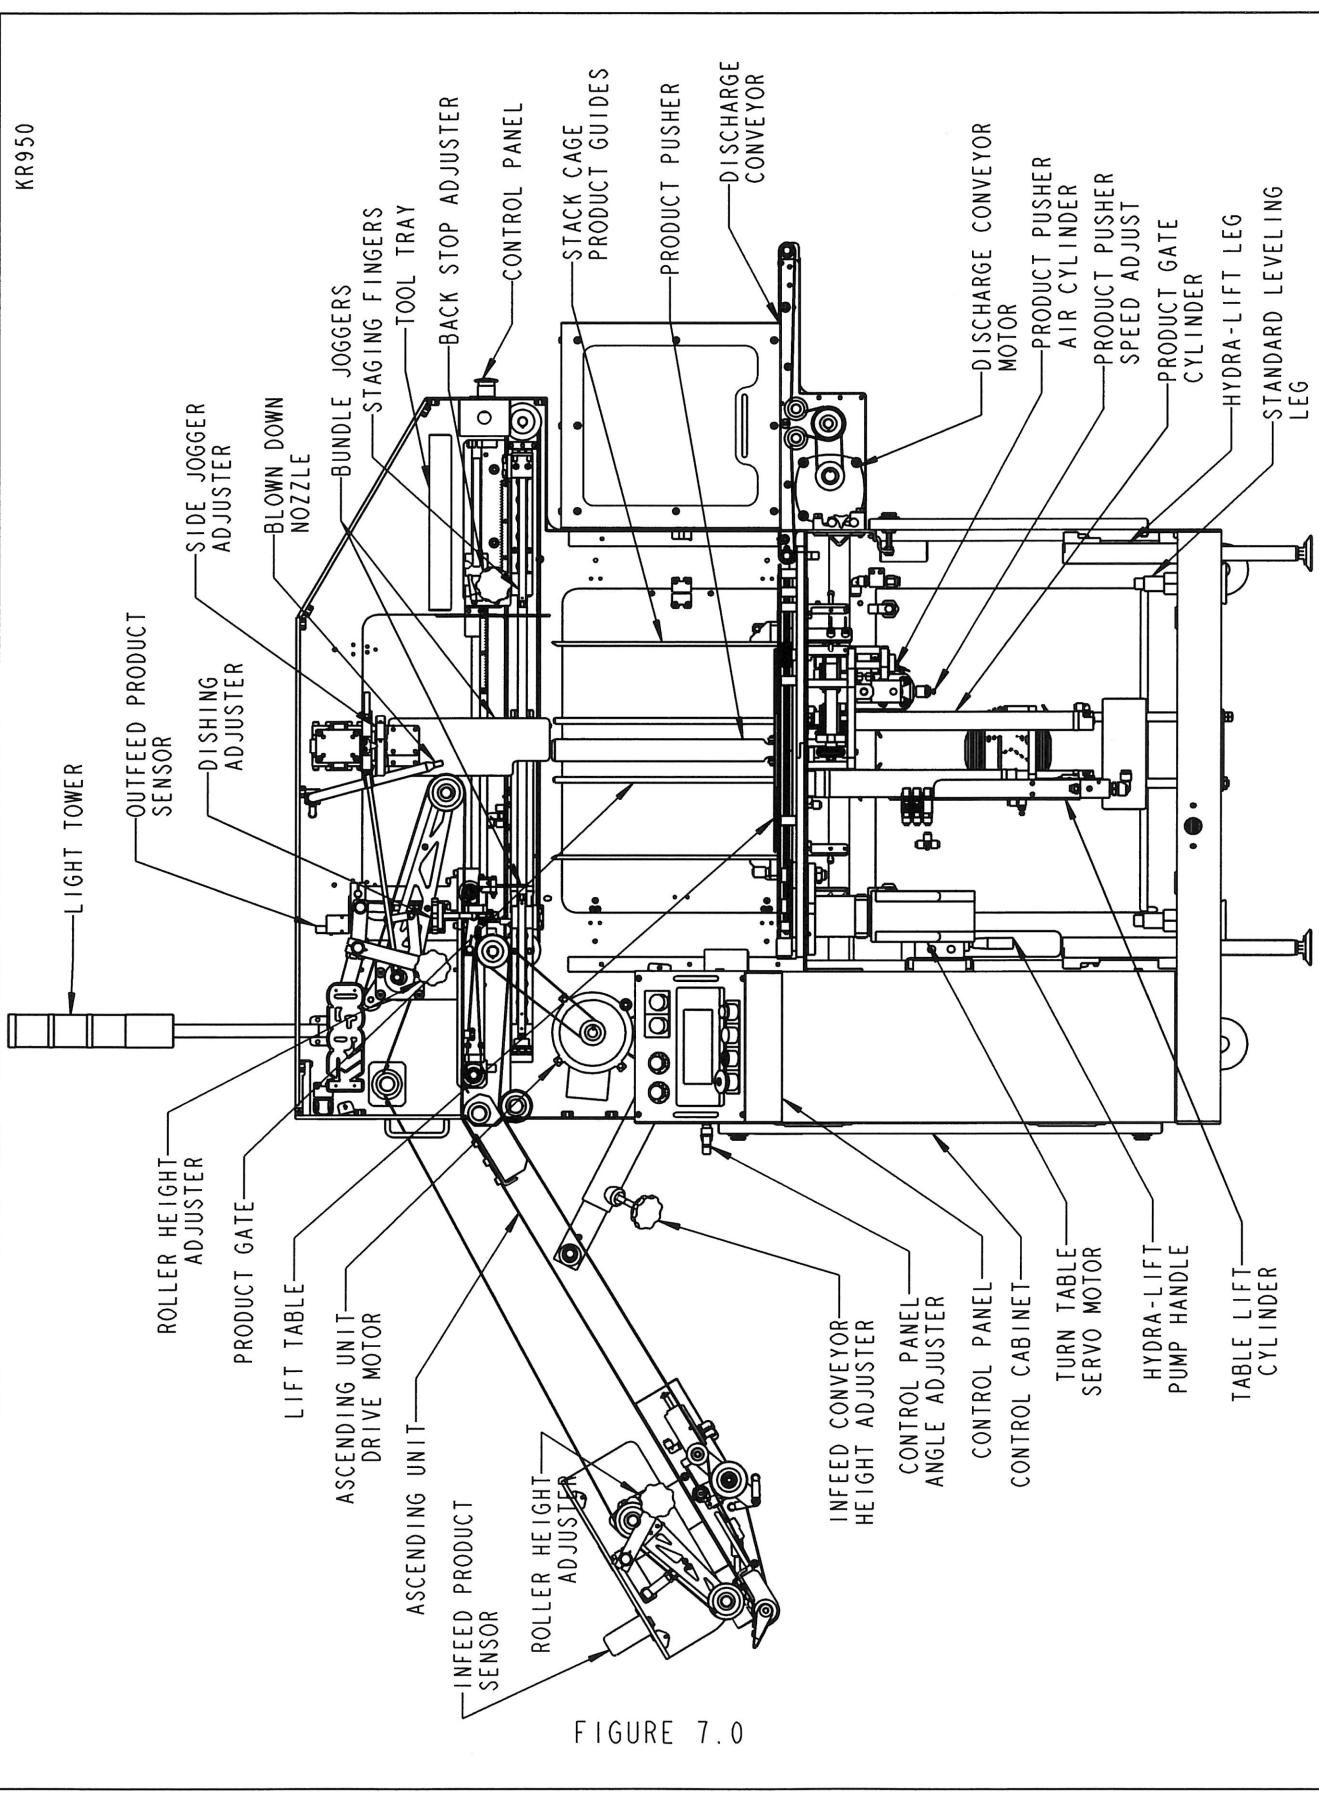

FIGURE 7.0
4.1.1 Base Component Description (see Figures 7.0 through 14.0)